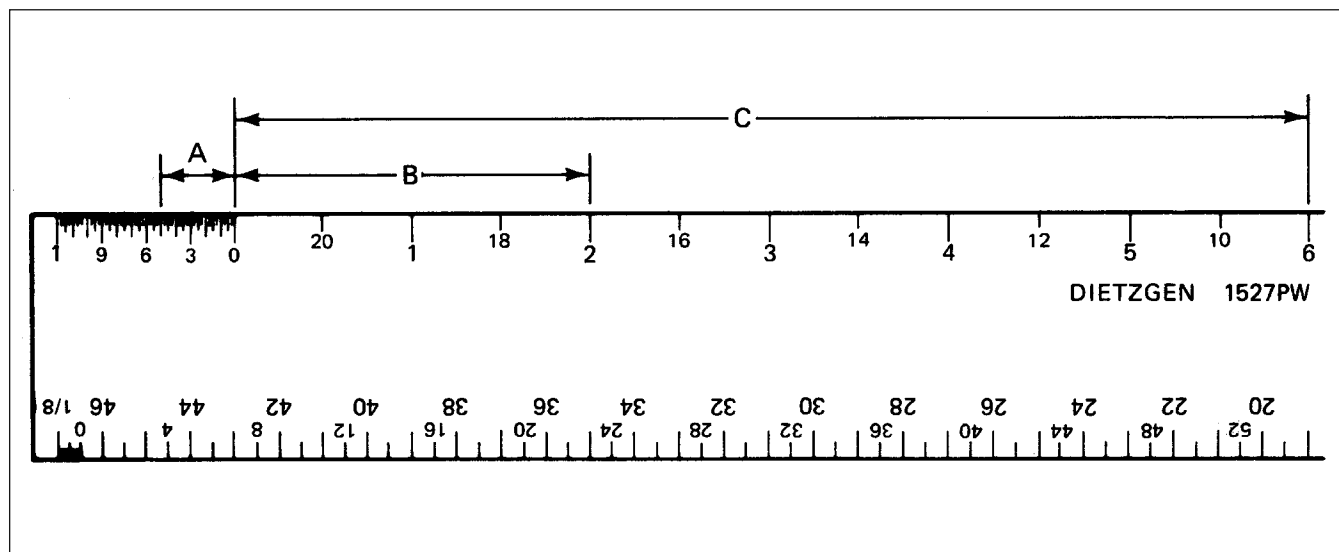

Figure 14-8: Architect's scale
59. What is the dimension of "A" on the architect's scale (1 inch = 1 foot) in Figure 14-8?
60. What is the dimension of "B" on the architect's scale in Figure 14-8?
61. What is dimension "C" on the architect's scale in Figure 14-8?